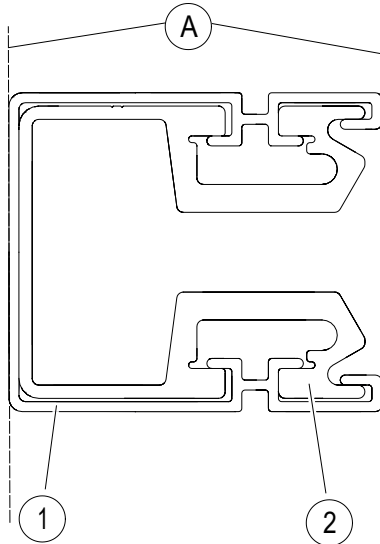

Fig. 34: Insulation profile (1), aluminum rail (2) and clamping surface (A)
- Saw insulation profile and aluminum rail separately and at right angles with a chop saw. Use the clamping surface A (see Fig. 34) so that the inside of the aluminum rail is not deformed.